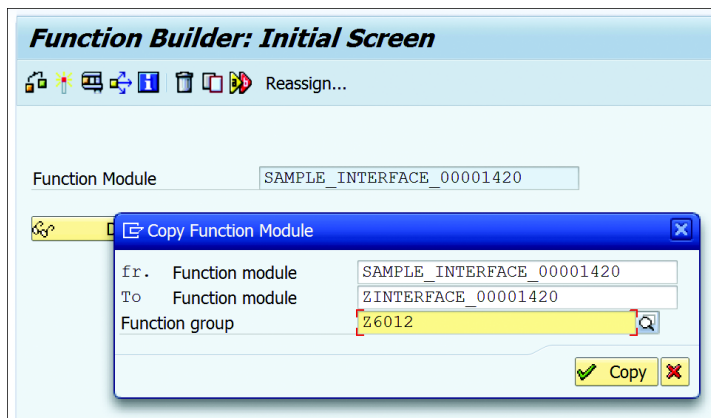

Figure 20.65 Copy Sample Function Module
5. Click the SAMPLE FUNCTION MODULE icon to open the sample function module in Function Builder. You can copy this function module into the customer namespace by using the copy function in Function Builder, as shown in Figure 20.65. The sample function module provided for this event is SAMPLE_INTERFACE_00001420.